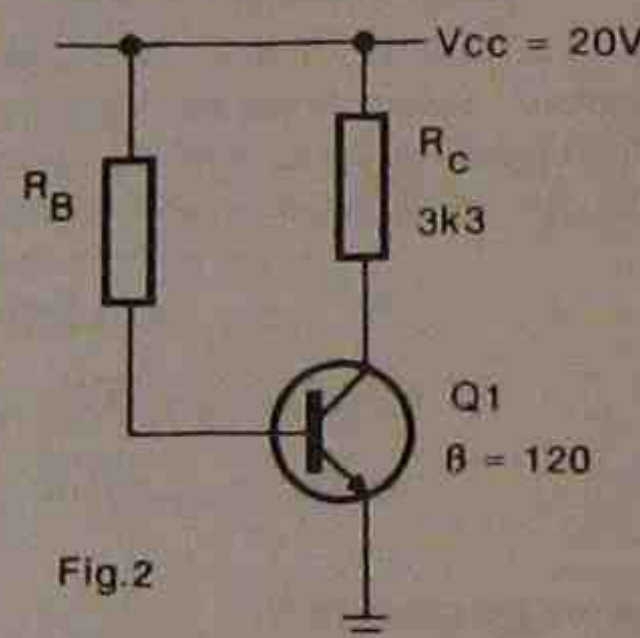

Fig.2
2. For the circuit of Fig.2, determine the value for  $R_B$  required to give a value of collector voltage equal to half the supply voltage.